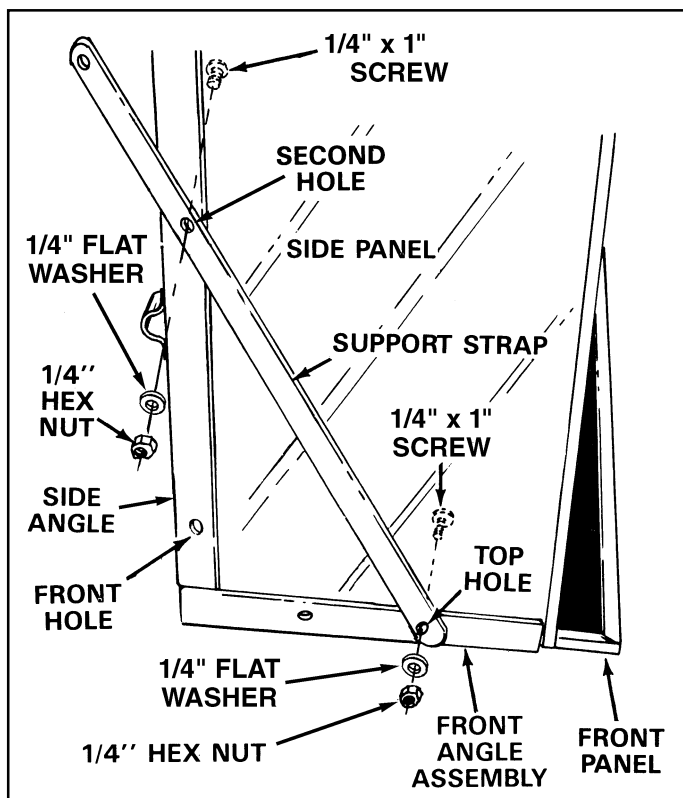

FIGURE 7
9. Position a side panel against a side angle, resting it down on top of the front panel. Place a support strap on the outside of the side angle and start a 1/4" x 1" screw through the **second hole** in the side panel, the side angle and the support strap. Secure with a flat washer and hex nut. **Make only finger tight at this time.** See figure 7.
10. Start a 1/4" x 1" screw through the top hole in the side panel, the front angle assembly and the support strap. Secure with a flat washer and hex nut. **Make only finger tight at this time.** See figure 7.